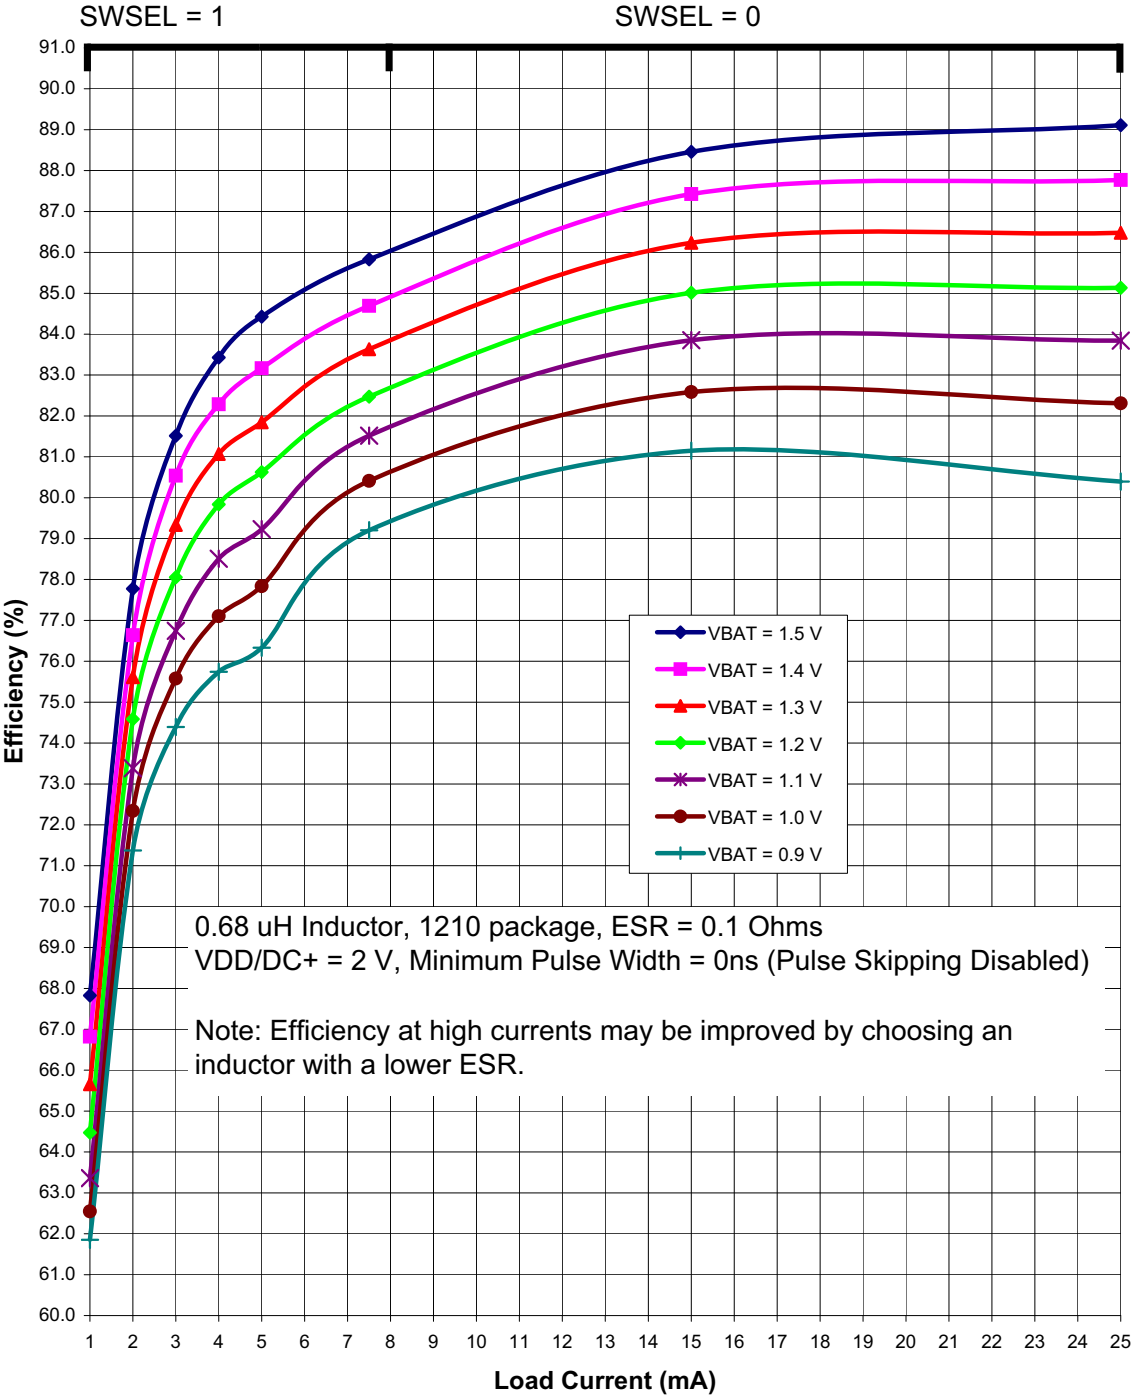
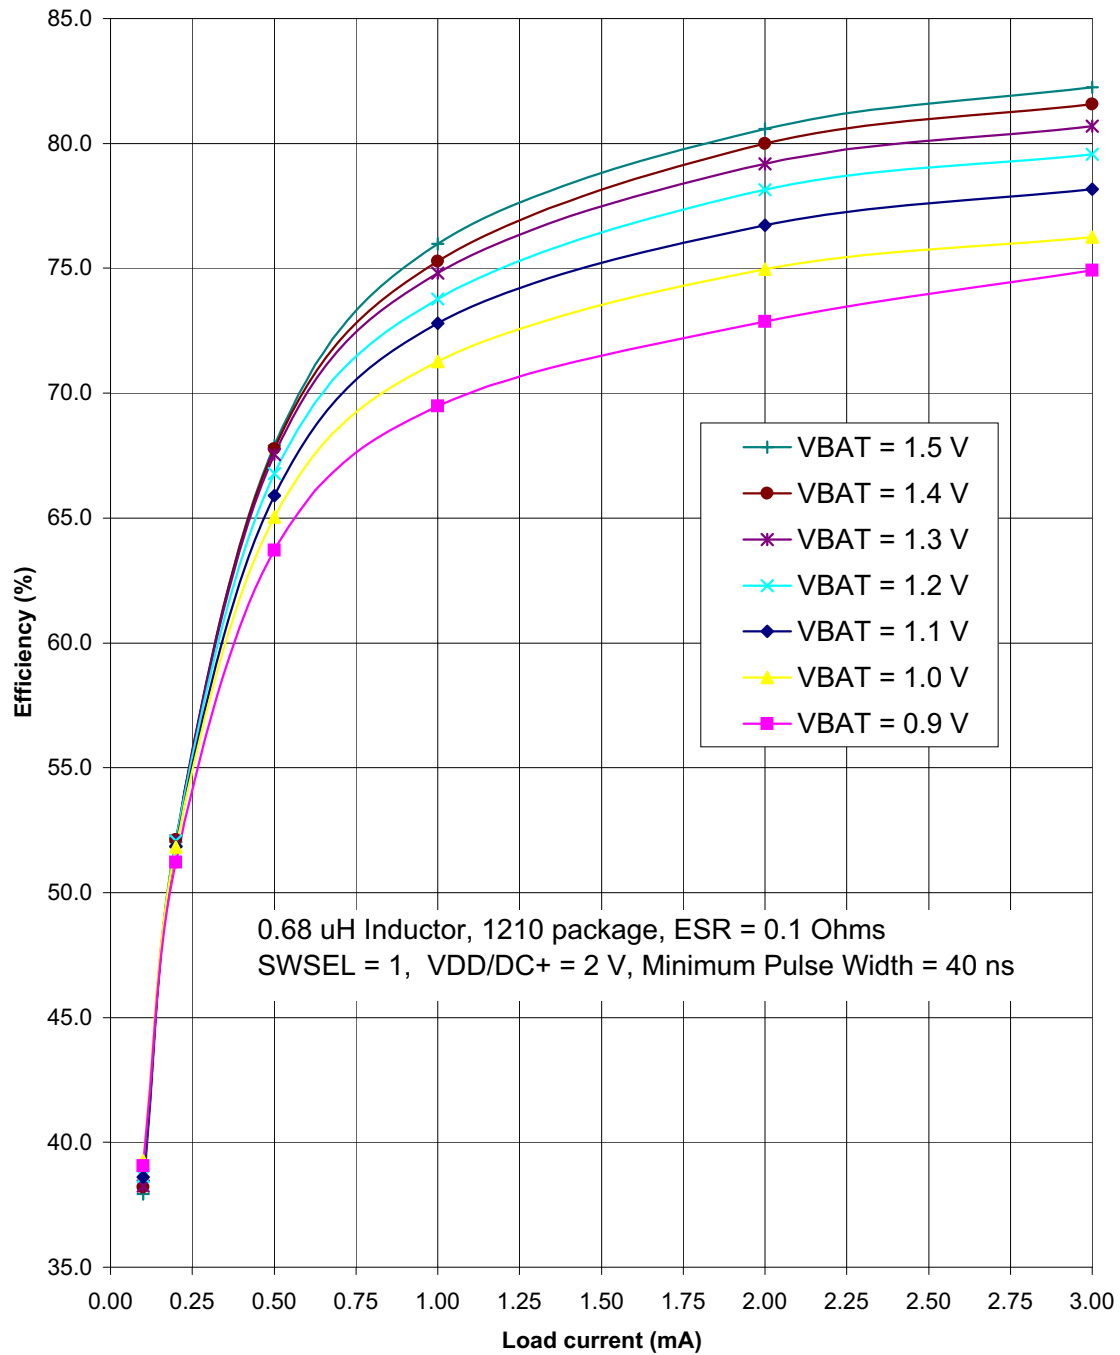

Figure 4.3. Typical DC-DC Converter Efficiency (High Current, VDD/DC+ = 2 V
Figure 4.5. Typical DC-DC Converter Efficiency (Low Current, VDD/DC+ = 2 V)
<ol style="list-style-type: none"> Based on device characterization data; Not production tested. SYSCLK must be at least 32 kHz to enable debugging. Digital Supply Current depends upon the particular code being executed. The values in this table are obtained with the CPU executing an “sjmp \$” loop, which is the compiled form of a while(1) loop in C. One iteration requires 3 CPU clock cycles, and the flash memory is read on each cycle. The supply current will vary slightly based on the physical location of the sjmp instruction and the number of flash address lines that toggle as a result. In the worst case, current can increase by up to 30% if the sjmp loop straddles a 128-byte flash address boundary (e.g., 0x007F to 0x0080). Real-world code with larger loops and longer linear sequences will have few transitions across the 128-byte address boundaries. Includes oscillator and regulator supply current. IDD can be estimated for frequencies ≤ 10 MHz by simply multiplying the frequency of interest by the frequency sensitivity number for that range, then adding an offset of 90 μA. When using these numbers to estimate I_{DD} for >10 MHz, the estimate should be the current at 25 MHz minus the difference in current indicated by the frequency sensitivity number. For example: $V_{DD} = 3.0$ V; $F = 20$ MHz, $I_{DD} = 4.1$ mA – $(25 \text{ MHz} - 20 \text{ MHz}) \times 0.120 \text{ mA/MHz} = 3.5$ mA. The Supply Voltage is the voltage at the VDD_MCU pin, typically 1.8 to 3.6 V (default = 1.9 V). Idle IDD can be estimated by taking the current at 25 MHz minus the difference in current indicated by the frequency sensitivity number. For example: $V_{DD} = 3.0$ V; $F = 5$ MHz, Idle $I_{DD} = 2.5$ mA – $(25 \text{ MHz} - 5 \text{ MHz}) \times 0.095 \text{ mA/MHz} = 0.6$ mA. The supply current specifications in Table 4.2 are for two cell mode. The VBAT current in one-cell mode can be estimated using the following equation: $\text{VBAT Current (one-cell mode)} = \frac{\text{Supply Voltage} \times \text{Supply Current (two-cell mode)}}{\text{DC-DC Converter Efficiency} \times \text{VBAT Voltage}}$ <p>The VBAT Voltage is the voltage at the VBAT pin, typically 0.9 to 1.8 V. The Supply Current (two-cell mode) is the data sheet specification for supply current. The Supply Voltage is the voltage at the VDD/DC+ pin, typically 1.8 to 3.3 V (default = 1.9 V). The DC-DC Converter Efficiency can be estimated using Figure 4.3–Figure 4.5.</p> The radio peripheral is placed in Shutdown mode.